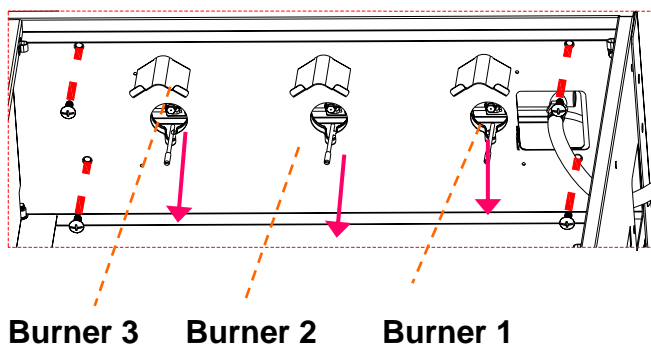

Fig. 10C
Refer to Fig. 10C, and note that at each opening for the valve and burner connection, there is a small keyhole slot. The Burners are numbered 1 to 3, starting with # 1 as the Left Burner. Carefully push each of the igniter wires through the holes to dangle inside, resting in the keyhole slot. The shortest wire is # 1 and the longest is for # 3. We will attach these wires to each burner tube when we install the burners. Check to be certain that no wires have become disconnected from the Igniter Housing.
Position the Control Panel in place against the Front Panel and fasten it with (4) M6x15 bolts from inside the Grill – see Fig. 10C.